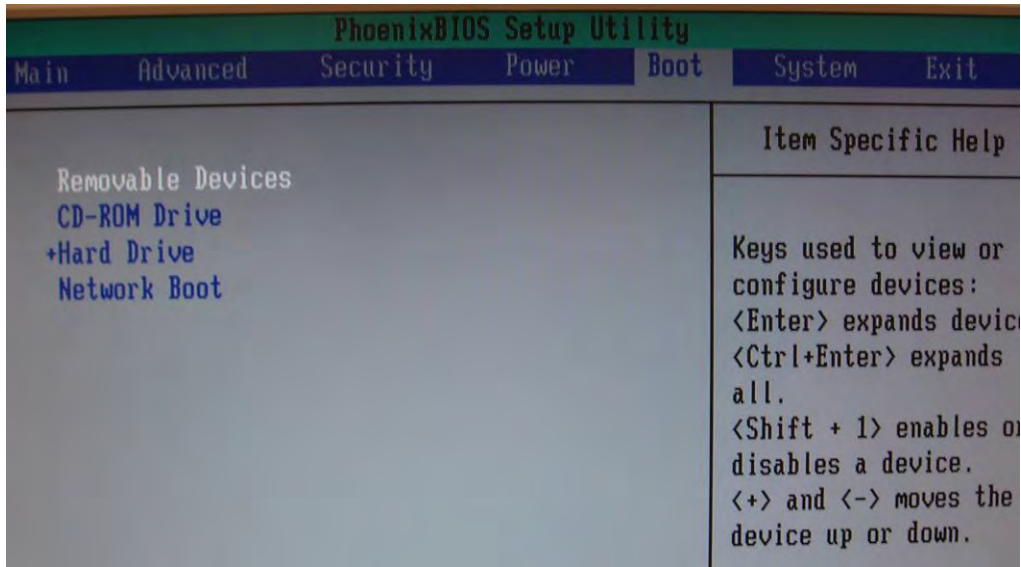

Figure 1-98. BIOS Boot Menu
6. Use the arrow keys to highlight the **Boot** menu option. The "Boot" screen displays "Removable Devices", "CD-ROM Drive", "+Hard Drive", and "Network Boot" in some order (Figure 1-98).